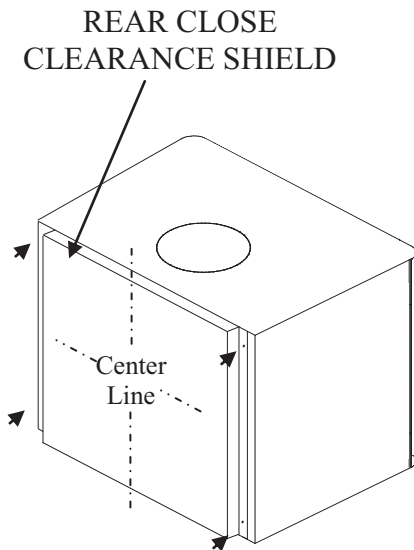

FIGURE 20
(See Figure 20, measurements H & *I).
1. Center rear close clearance shield with back of stove. Mark back of stove, using holes in rear shield as reference. Drill pilot holes using a 1/8 drill bit. Using self-tapping screws, secure back shield to back of stove (See figure 20).